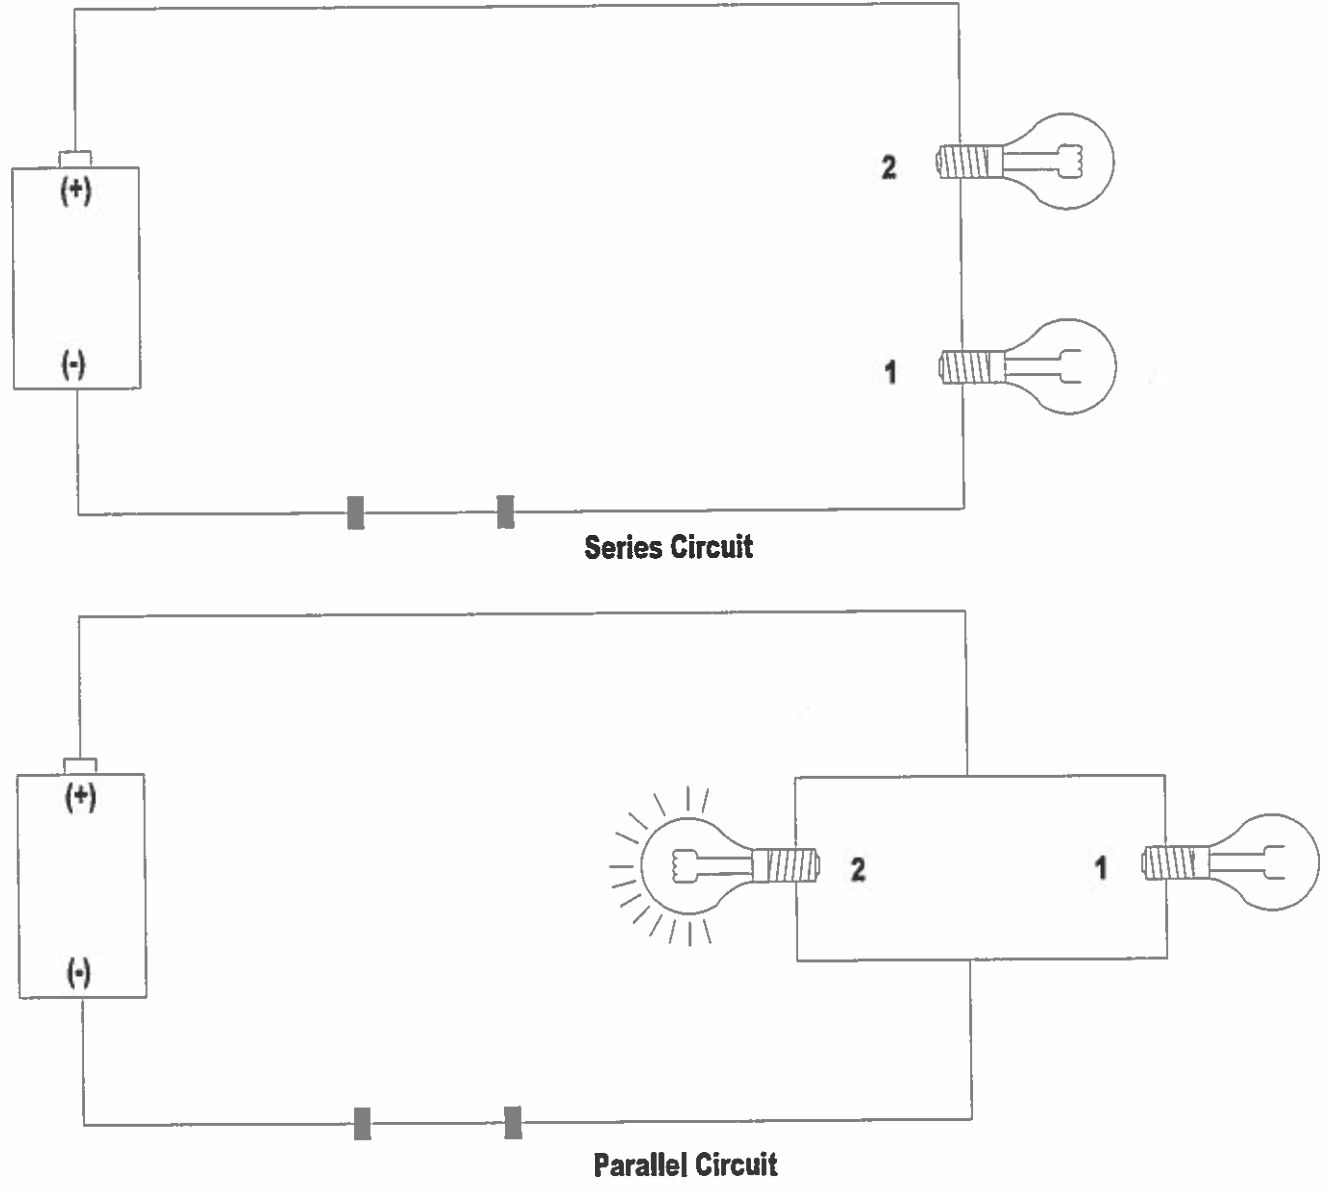
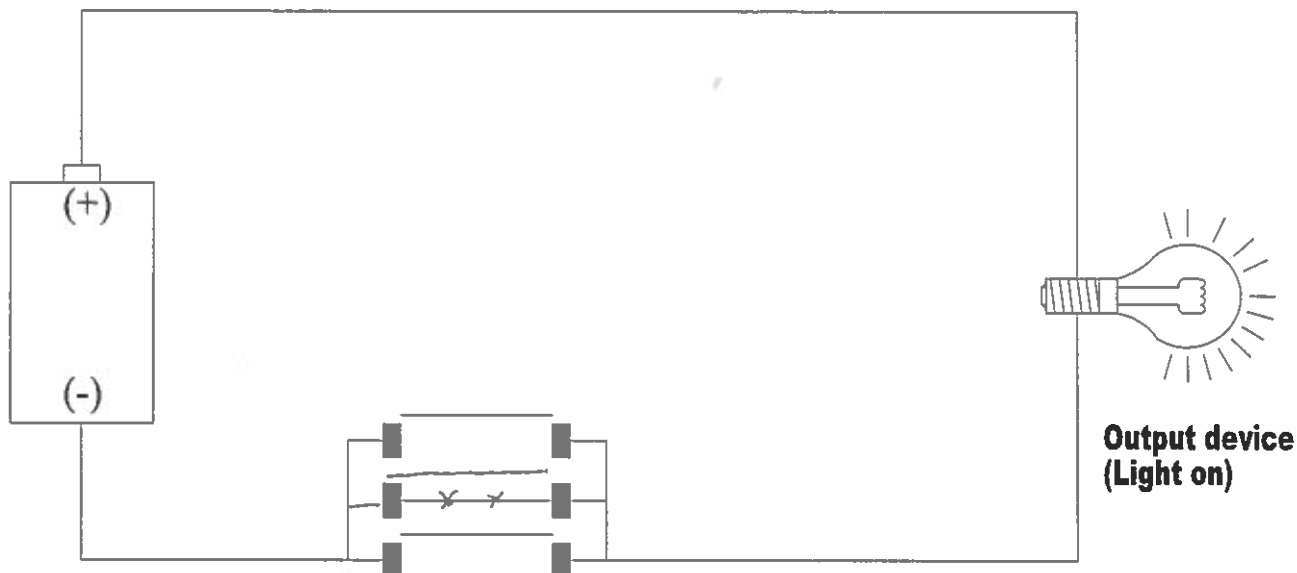

Figure 3-4
Figure 3-5
Another type of circuit is the parallel circuit shown in Figure 3-4. This type of circuit contains more than one path for the current to follow. If one of the components fails, the others can still operate. In the series circuit in Figure 3-4, if light 1 burns out, light 2 receives no power and cannot light up. In the parallel circuit, when light 1 burns out, light 2 continues to operate.
Control devices as well as output devices can be wired in parallel. The three switches in Figure 3-5 are wired in parallel. Closing any one of the three switches will complete the circuit and turn on the light bulb.
b. How do the circuits constructed for the lab compare with the circuits illustrated in Figures 3-4 and 3-5?
The first circuit (Step 3) is like the series circuit in Figure 3-4. The second circuit adds to this two switches in parallel, similar to the switches in the Figure 3-5.